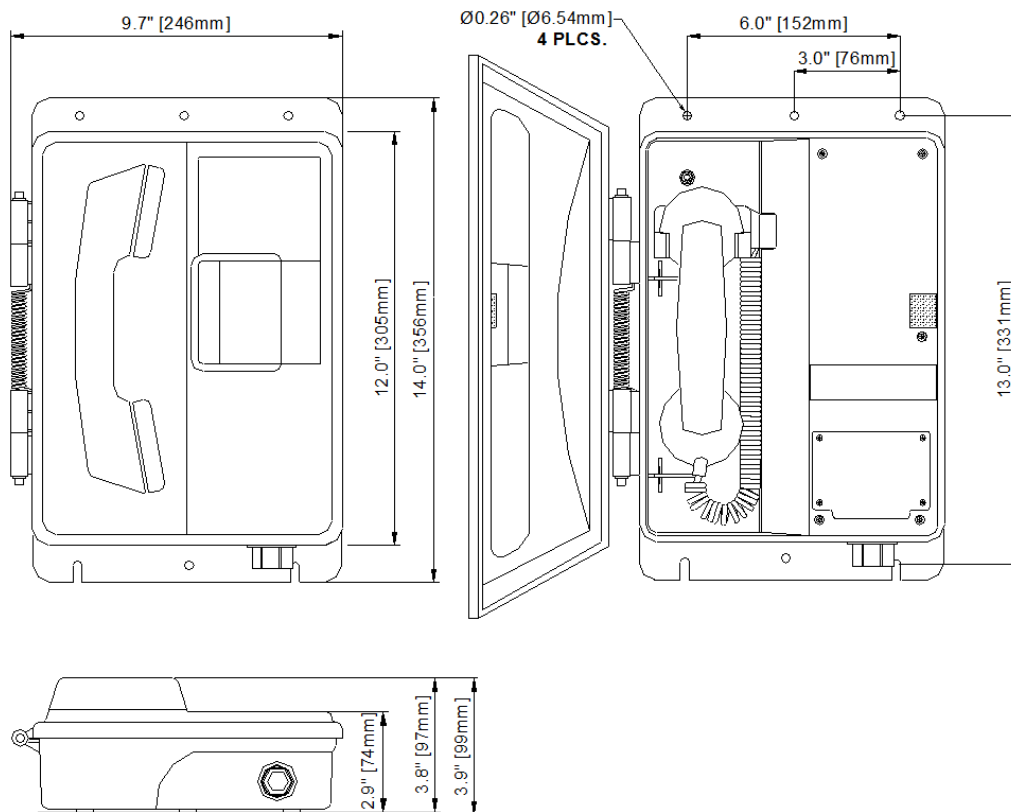

Figure 2 - WRR-11-H Overall Dimensions
*See: Figure 2 - WRR-11-H Overall Dimensions & Figure 4 - WRR-41-H Overall Dimensions*